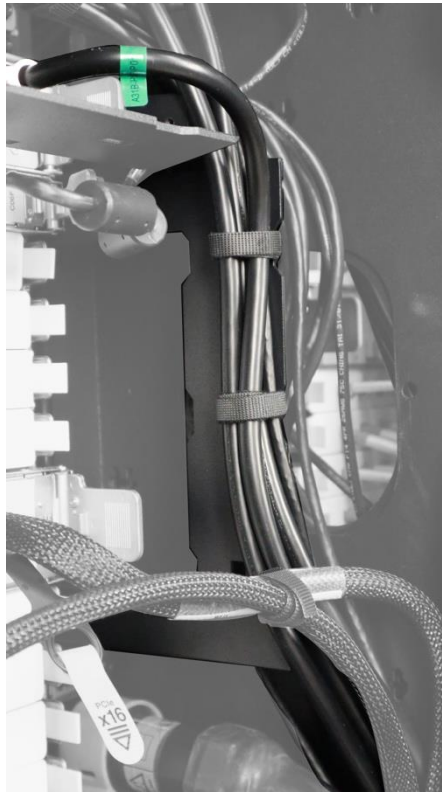

Figure 24: Vertical Cable Management Bracket
Also, at I/O cage #3 there may be left and right vertical cable management brackets (See Fig 24). These relieve cable congestion from the upper PDUs when four (4) PDUs are present. Power jumpers are routed on the inward side of each bracket as shown.